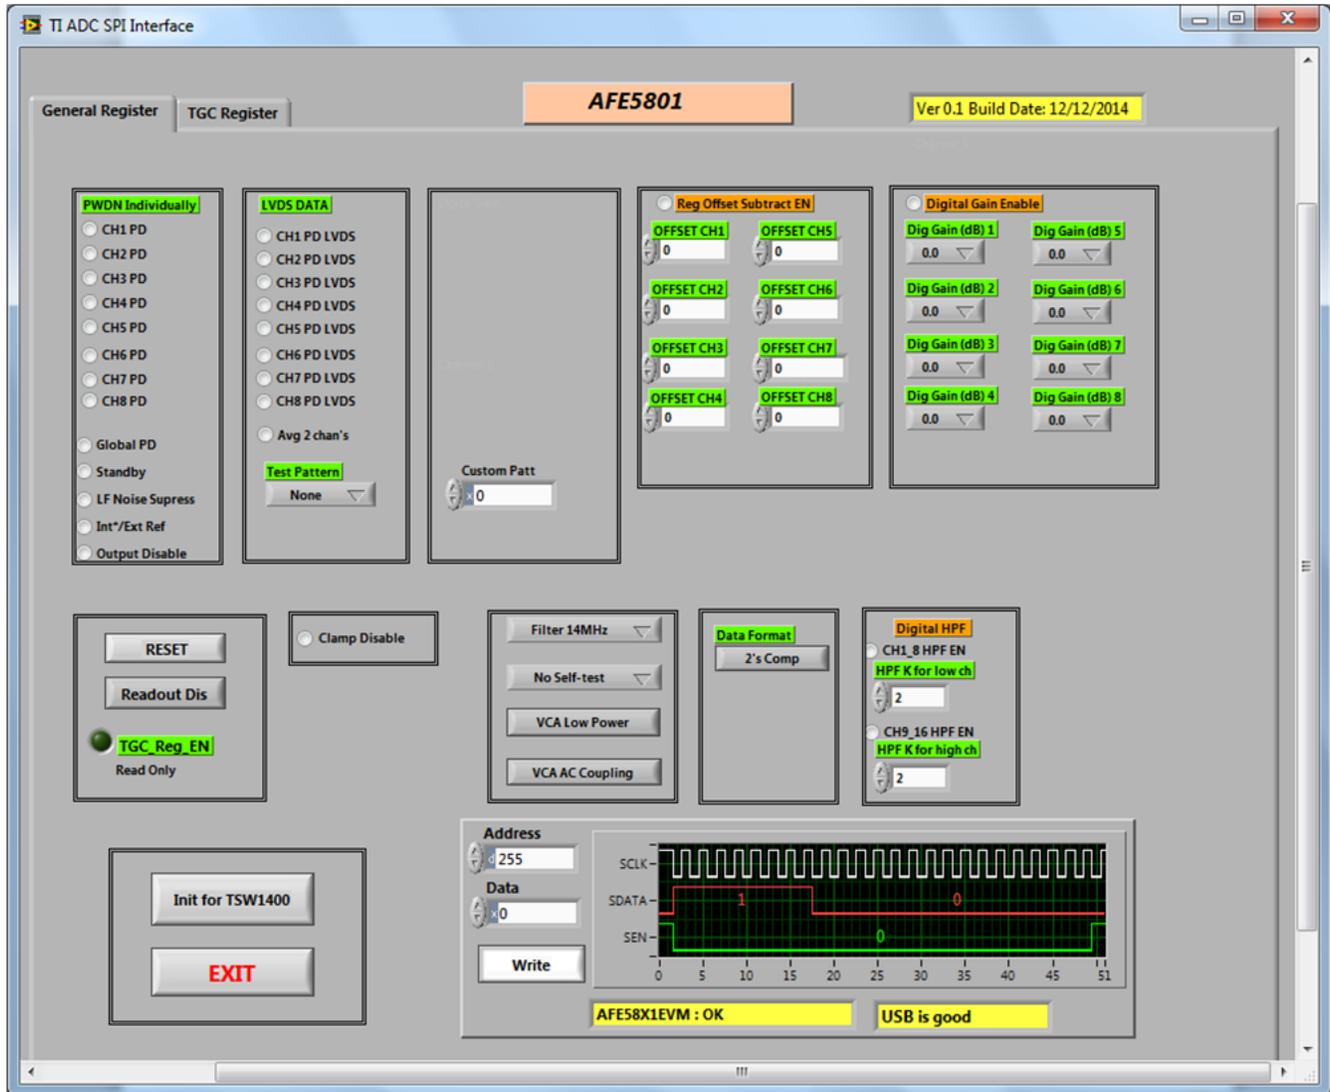
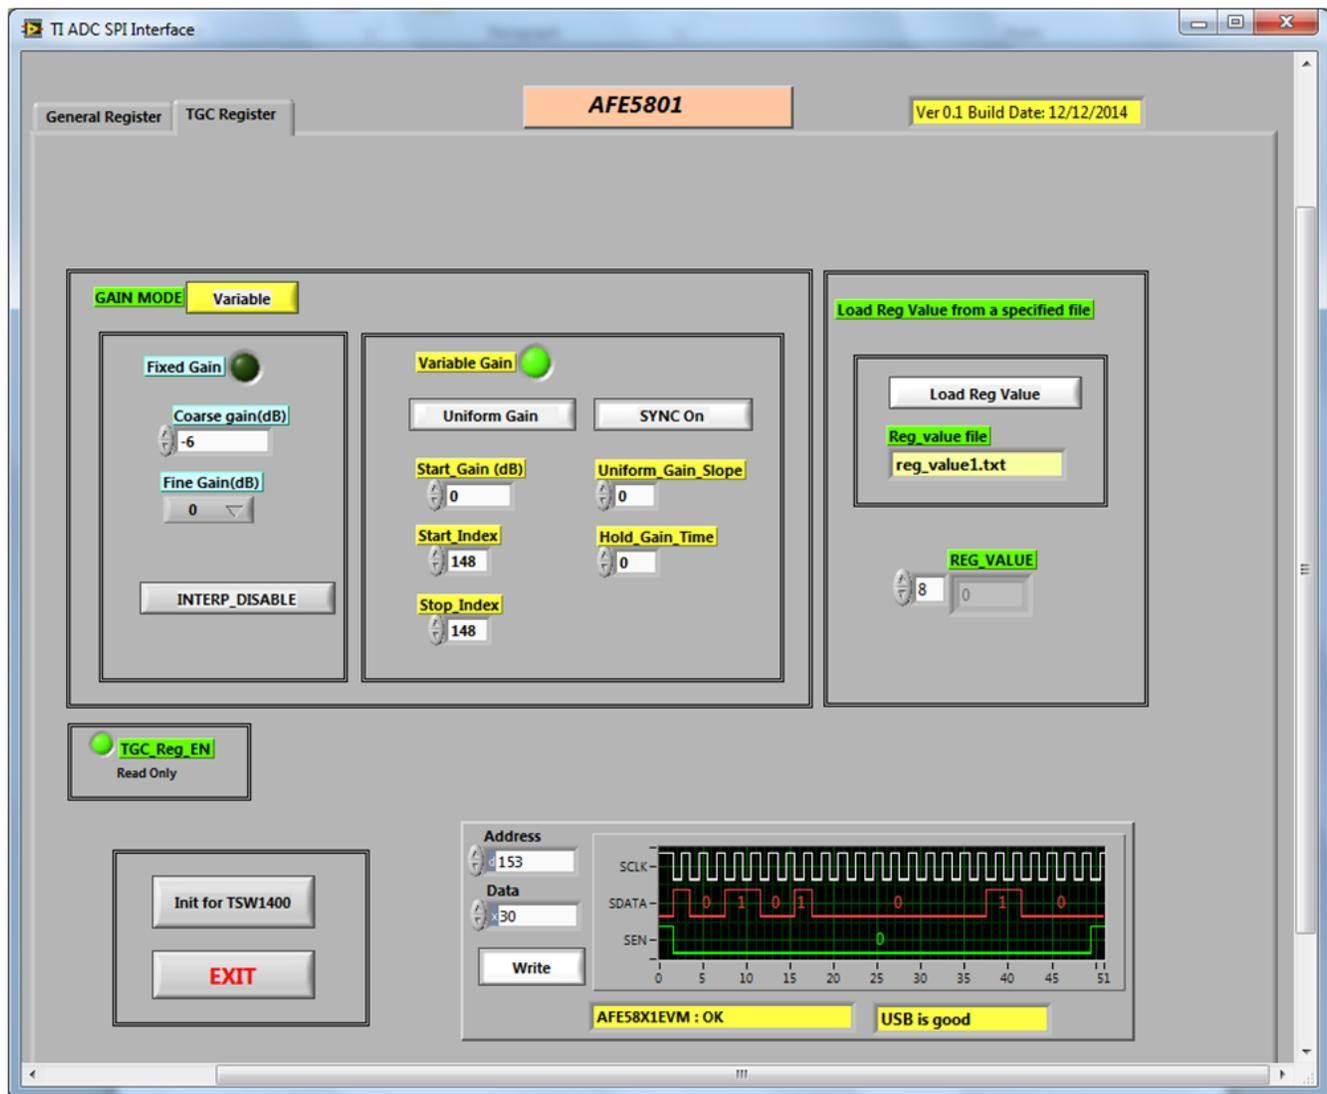

Figure 9. AFE5801EVM USB SPI Interface for General Registers.
Figure 11. AFE5801EVM USB SPI Interface for Variable Gain Mode
- Several different screens appear displaying the different modes (Figure 9 through Figure 11)
- From Figure 9 press "Init for TSW1400" button
- From Figure 11, press "Variable" button to get into fixed gain mode